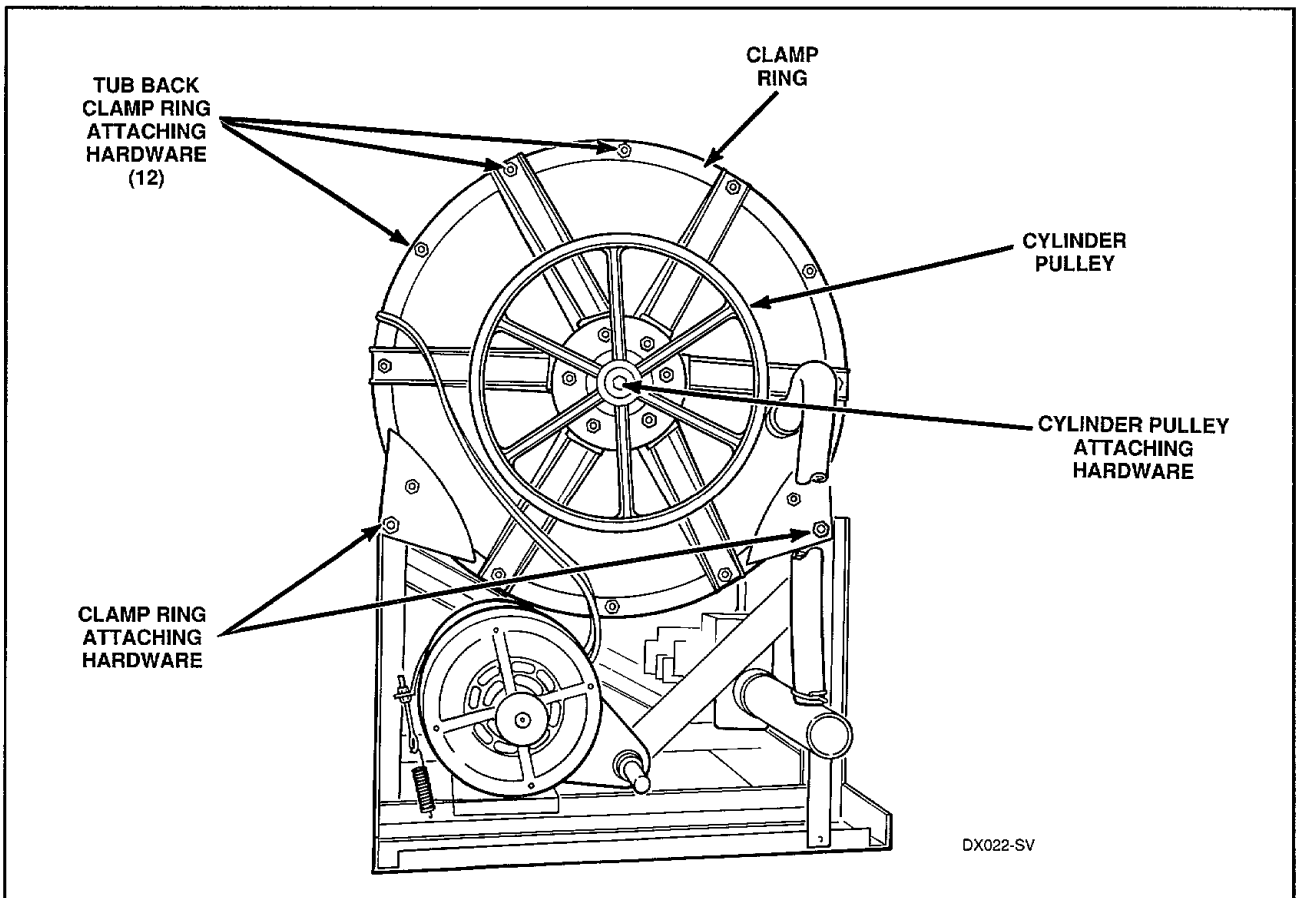

Figure 22
- t. Remove the 12 bolts, lockwashers and nuts from the tub back clamp rings, *Figure 22*.
- u. Remove two bolts, lockwashers and nuts holding clamp rings to the two rear frame legs, *Figure 22*.